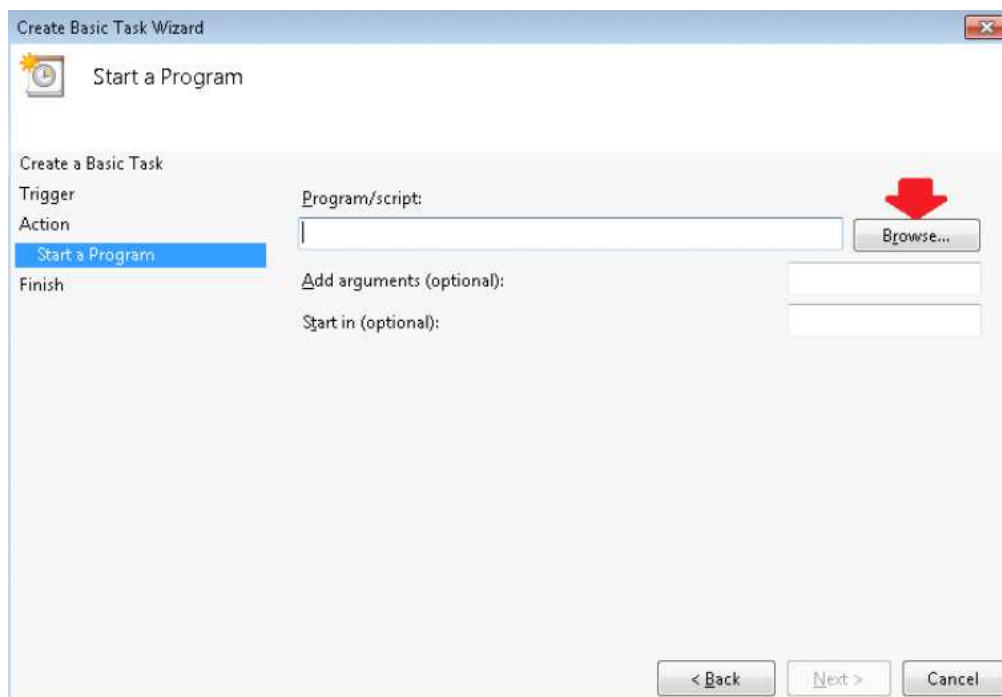

Fig. C.37: Start a Program window
STEP 6 – In *Create Basic Task Wizard* window in *Start a Program* window please click on *Browse...* button (Fig. C.37).